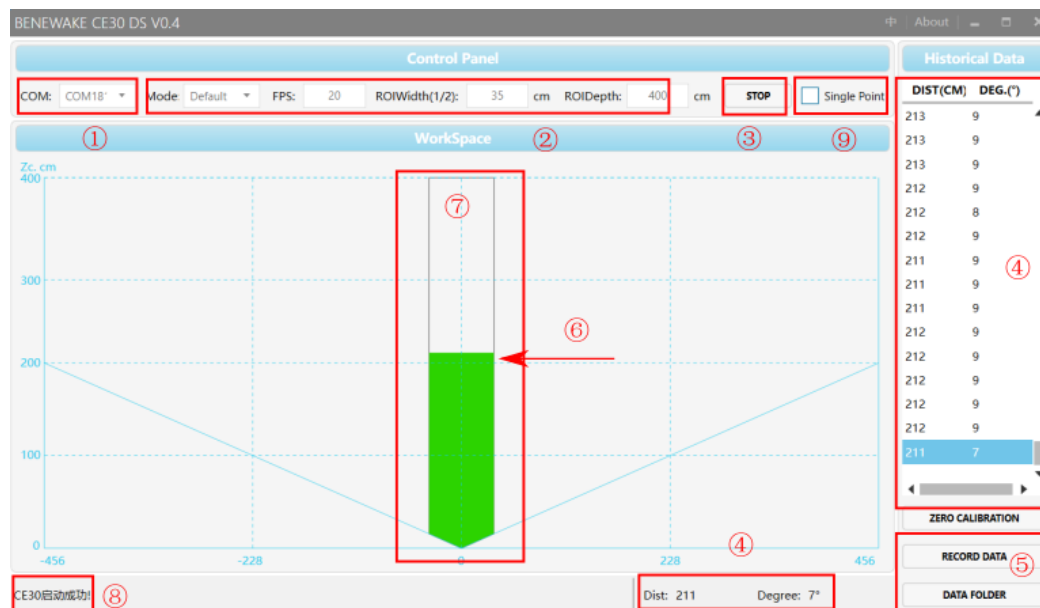

Fig. 4 Illustration of Software Functions
- 4) Operate according to Fig. 4 to start the software. Demonstration and data recording can be achieved with the software.
- ① The software could automatically identify two kinds of UART: one for data and another is for debugging information. Please choose appropriate UART number in accordance with computer properties.
- ② Default setting of obstacle avoidance area is 35 cm in half-width of the ROI and 400 cm in depth.
- ③ Start/ stop test button
- ④ View data by rolling the window
- ⑤ Button of data recording (In unit of minute. When multiple clicks of the button within one minutes, only the data of the last click will be recorded.)
- ⑥ Position of the nearest obstacle detected by LiDAR
- ⑦ Obstacle avoidance region: with presence of an object, as shown in Fig. 4 above, the software will label the area between LiDAR and the obstacle as the safe zone with coloring, or else the background will be white.
- ⑧ Running state
- ⑨ Single-point mode